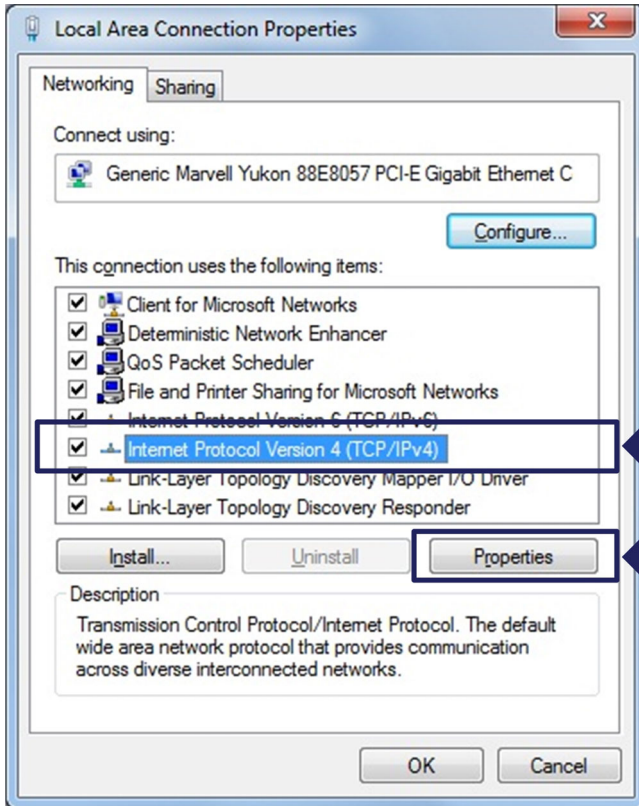

Fig. 3.8 Local Area connection properties
- Select the Internet Protocol (TCP/IP) and click on the **Properties** button (Fig. 3.8).